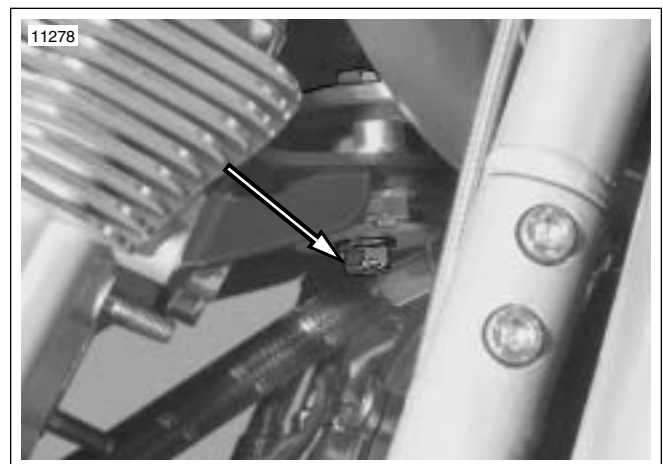

Figure 1-72. Front Engine Mount Bolt
- See Figure 1-72. Loosen front engine mount bolt and retract jack to allow the engine to drop down approximately 13 mm (1/2 in.).